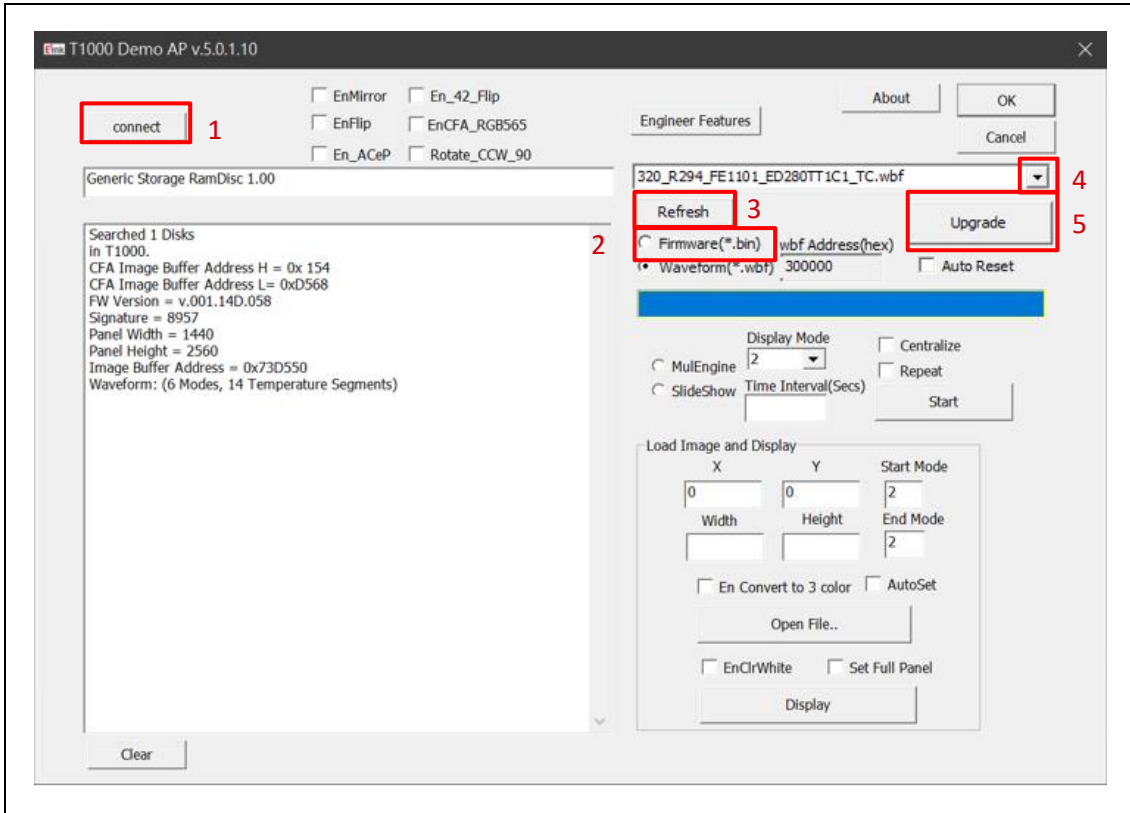

Figure 3.5
- Execute T1000 Demo AP(refer to Figure 3.5)